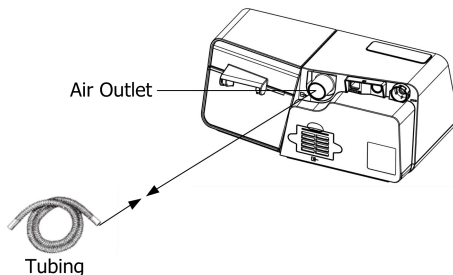

Fig. 12-8
(1) Connect one end of the breathing tube to the air outlet of the device, as shown in Fig. 12-8.